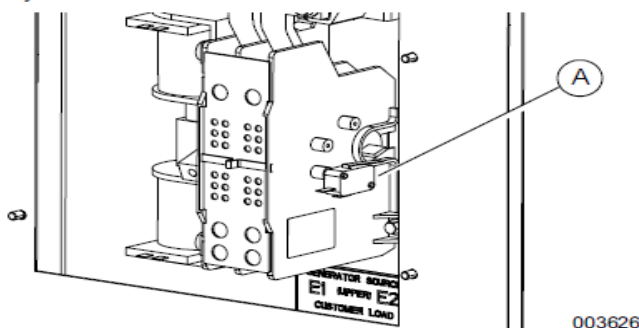

Figure 3-4. Auxiliary Contact
See Figure 3-4. If desired, there is one normally-closed Auxiliary Contact (A) on the transfer switch to operate customer accessories, remote advisory lights, or remote annunciator devices. A suitable power source must be connected to the common terminal. If needed, an extra auxiliary contact can be added.